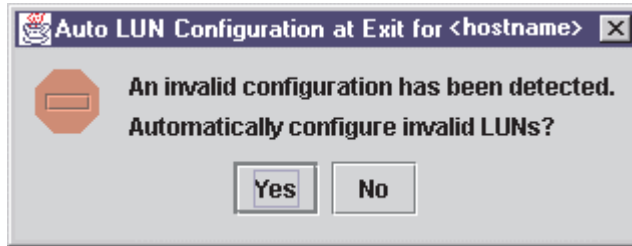

Figure 29. Auto LUN Configuration at Exit dialog window
4. Click **OK** to save the changes until you exit the Fibre Channel Port Configuration window; then, review the configuration changes (see Step 3). If FAS*t*T MSJ detects an erroneous LUN configuration while saving the configuration, the Auto LUN Configuration at Exit for <hostname> window displays (see Figure 29 on page 94).